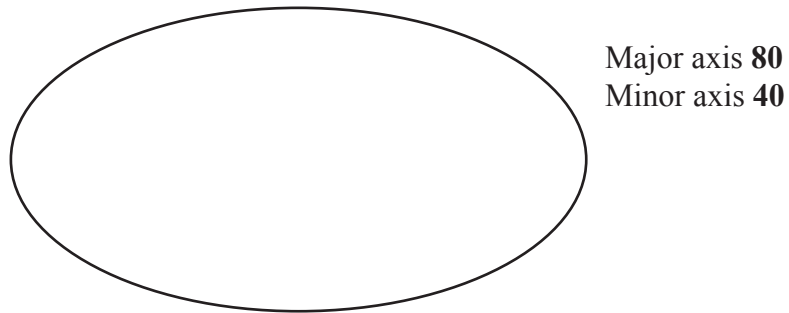

Fig. 3(d)
- (d) **Figure 3(d)** shows the outline of a puzzle piece for a child's shapes game. The piece is made from a bright coloured acrylic material.